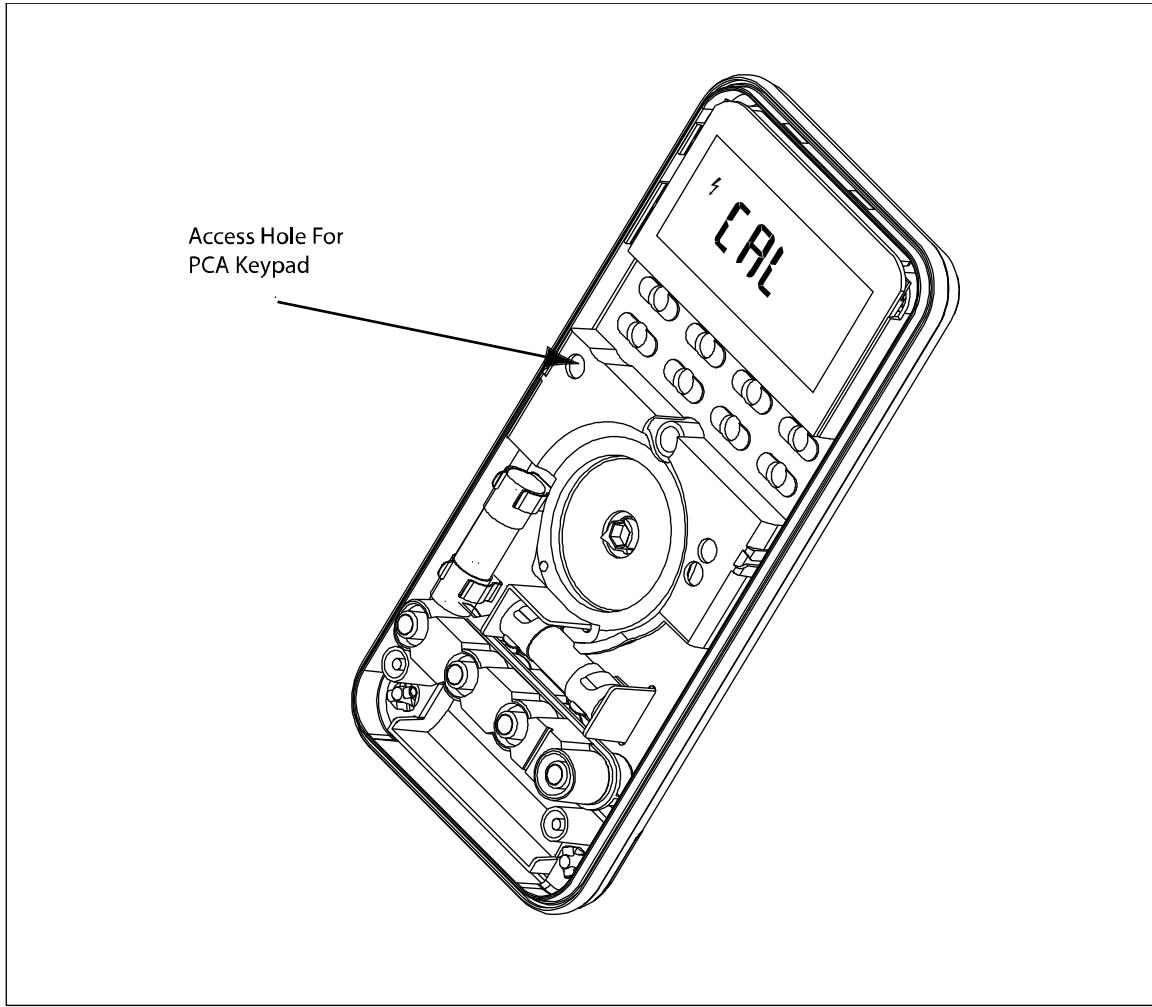

Figure 6. Restoring the Default Password
3. Through an access hole provided in the top shield, short across the keypads on the PCA. See Figure 6. The Meter should beep. The default password is now restored.